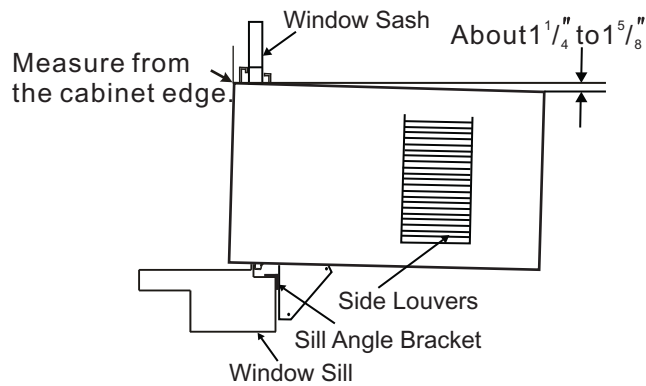

Fig.14
**NOTE:** Check that air conditioner is tilted back about  $1\frac{1}{4}$ " to  $1\frac{5}{8}$ " (tilted about  $3^\circ$  to  $4^\circ$  downward to the outside). After proper installation, condensate should not drain from the overflow drain hole during normal use,correct the slope otherwise (Fig. 14).